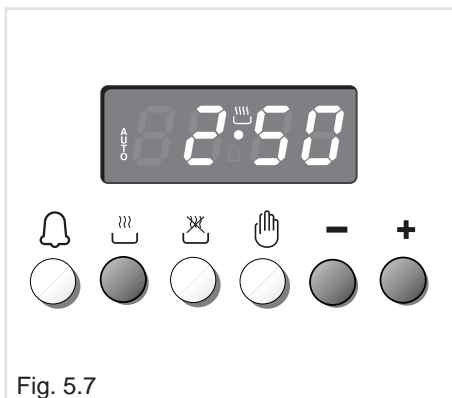

Fig. 5.7
1. Set the length of the cooking time by pushing the  button and the  button to advance, or  to go backwards if you have passed the desired time (fig. 5.7).